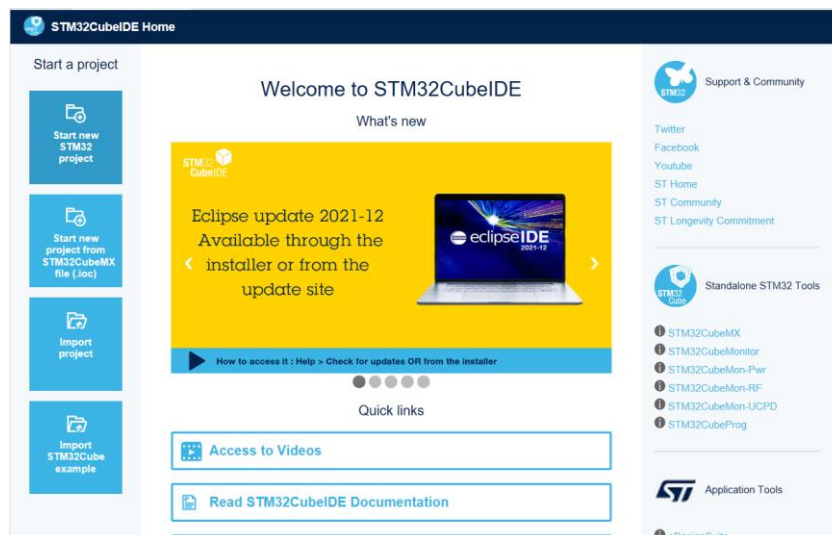

Figure 7 – STM32CubeIDE initial interface
These examples are prepared to be used with either the **AC6 System Workbench** [ref07] or the **STM32CubeIDE** [ref01]. Both programs are based on the Eclipse IDE, are free to download at the referenced locations, and only require user pre-registration on the company websites. The STM32CubeIDE has much more frequent updates and includes the graphical CubeMX32 configurator if required. The initial interface for this program is shown in Figure 7. The examples can be downloaded directly as .zip or by cloning the repo at <https://github.com/LyRIng/CL3board> [ref11] to a directory in your local machine.